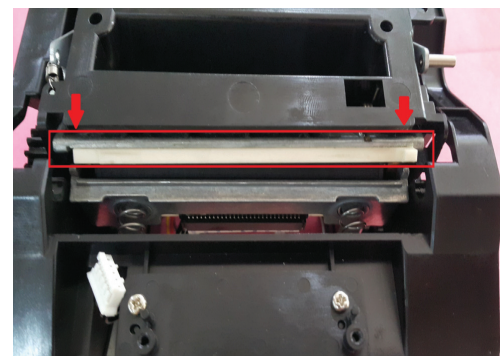

Fig 25
- 3) For upper cutter, please careful the spring in the cutter. Ref fig 25